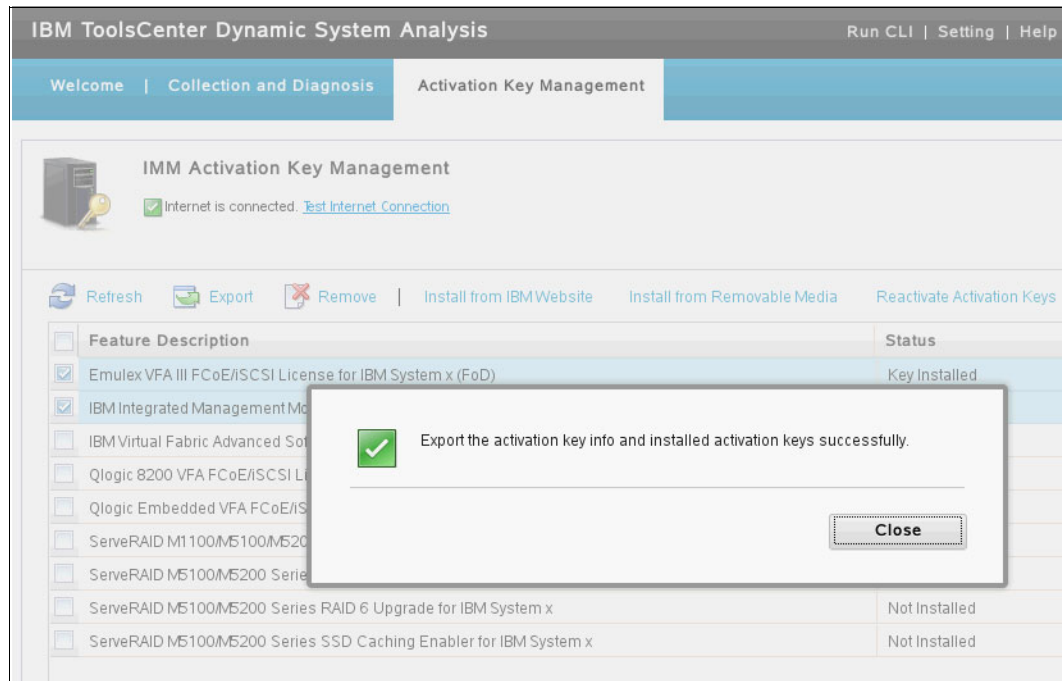

Figure 3-26 Export activation key success message
4. Upon completion, a success message is displayed, as shown in Figure 3-26. Click **Close** to return to the activation key management window.